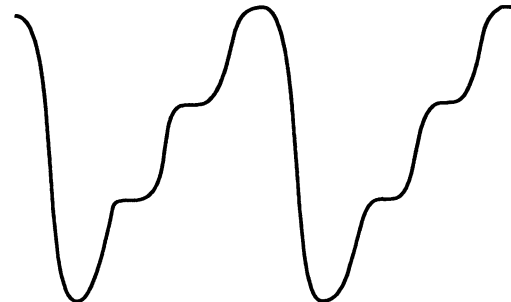

Figure 22. Non-inverting Receiver: RDM to Transmitter Polarity Inversion
- If it looks like Figure 22, there has been an inversion between the RDM and the simulcast transmitter. Check the connection at point C for crossed wires and repeat steps 1 through 7.